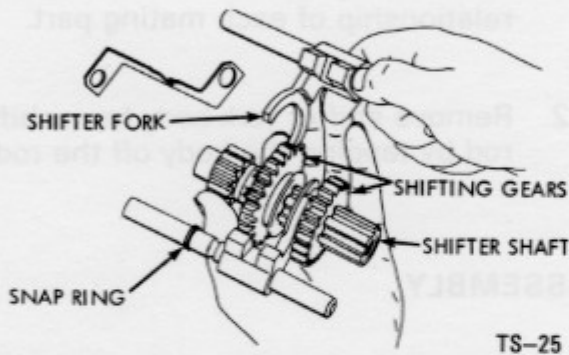

Figure 25 - Assembling Shift Fork, Gears and Shaft Assemblies
a) Place the fork, (Figure 25) with the short smooth shaft protruding past the fork, into the flange of the smaller gear. The short rod end parallels the needle bearing end of the shaft.